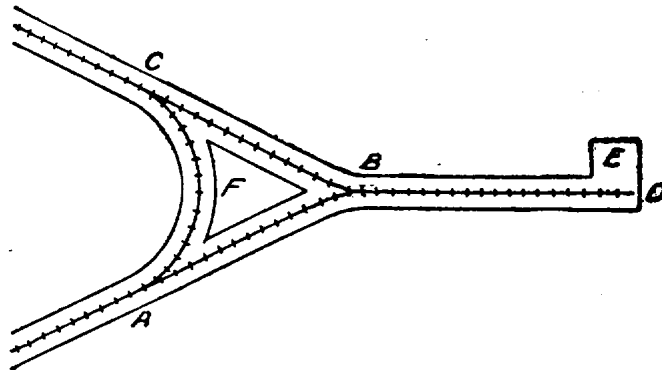

FIG. 13.—SWITCHBACK.
18. The angles made in the trench lines of siegeworks are so sharp that curves with very short radii will be necessary. Sharp curves, even with low speed, mean derailments and the consequent trouble; and the use of "**switchbacks**" is recommended when the question of speed is a minor one, as it usually is on a siege line. ABC (fig. 13) is the change of direction of an approach; the angle is not exaggerated. A very sharp curve would be necessary to get from A to C by an auxiliary trench, F. A much better method is to extend the trench from B to D and lay the track to D. At B a switch is put in and the line continued to C. BD must be longer than the probable train length and level if possible. The train is moved onto BD, and the animals are put on the other end of the train, or the motor is run backward and the train proceeds, via BC, to the next switchback, when the operation is repeated. E makes an excellent place for storage of tools or materials, or for a dressing station.